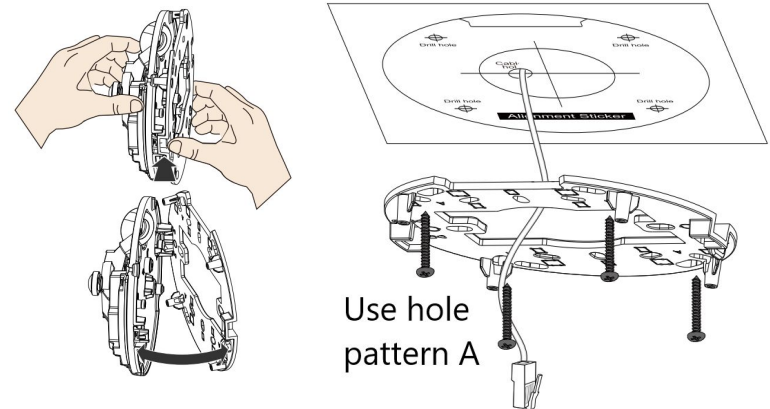

Figure 1-3
Step 3 Remove the camera mounting plate by pressing the release tap on the side of the camera and separating it from the base, as seen on Figure 1-3. Align the screw holes of the plate with the mounting holes, then tighten the mounting screws into the screw holes until they are held firmly.